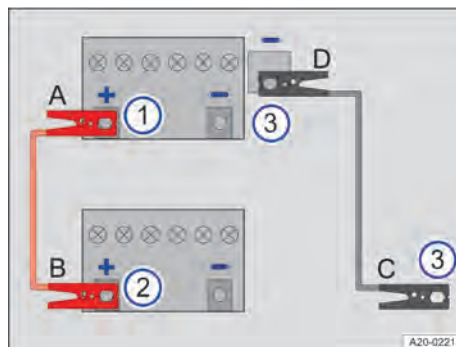

Fig. 186 How to connect the jump leads.
The jump leads should be connected only in the order **A – B – C – D** → Fig. 186.
2. Remove the cover from the positive terminal on the 12-volt vehicle battery → Fig. 186 ① → ▲.
4. Connect the other end of the *red* jump lead **B** to the positive terminal + of the vehicle battery providing assistance → Fig. 186 ②.
5. Connect one end of the *black* jump lead **C** preferably to a suitable jump start connection point (earth connection) or otherwise to a solid metal part that is securely bolted onto the cylinder block, or to the cylinder block itself of the vehicle providing assistance → Fig. 186 ③.
6. On the vehicle with the flat 12-volt battery, connect the other end of the *black* jump lead **D** preferably to the jump lead connection point (earth connection), or otherwise to a solid metal part that is securely bolted onto the cylinder block, or to the cylinder block itself → Fig. 186 ③ → ▲.
3. When the engines are running, the jump leads should be removed only in the order **D – C – B – A** → Fig. 186.